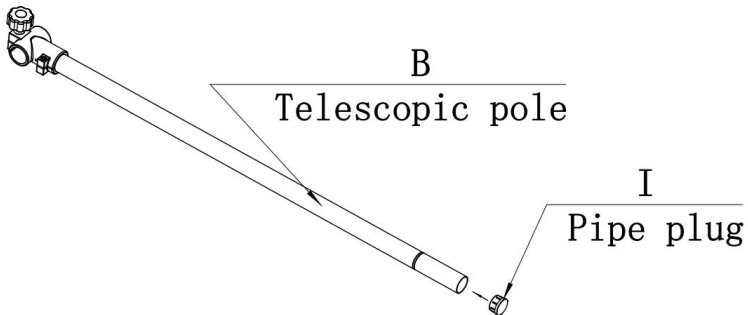

Fig.3
4. Insert the pipe plug (I) into the end of tube as show in Fig 3. Then insert telescopic pole (B) into the Main Supporting Stand (A)
5. Mount the bicycle bracket (C) onto the telescopic pole(B).
6. The tool tray (D) can be attached anywhere on the Main Supporting Stand (A).
- This product also includes a stabilizer for securing the front wheel of the attached bicycle (E).